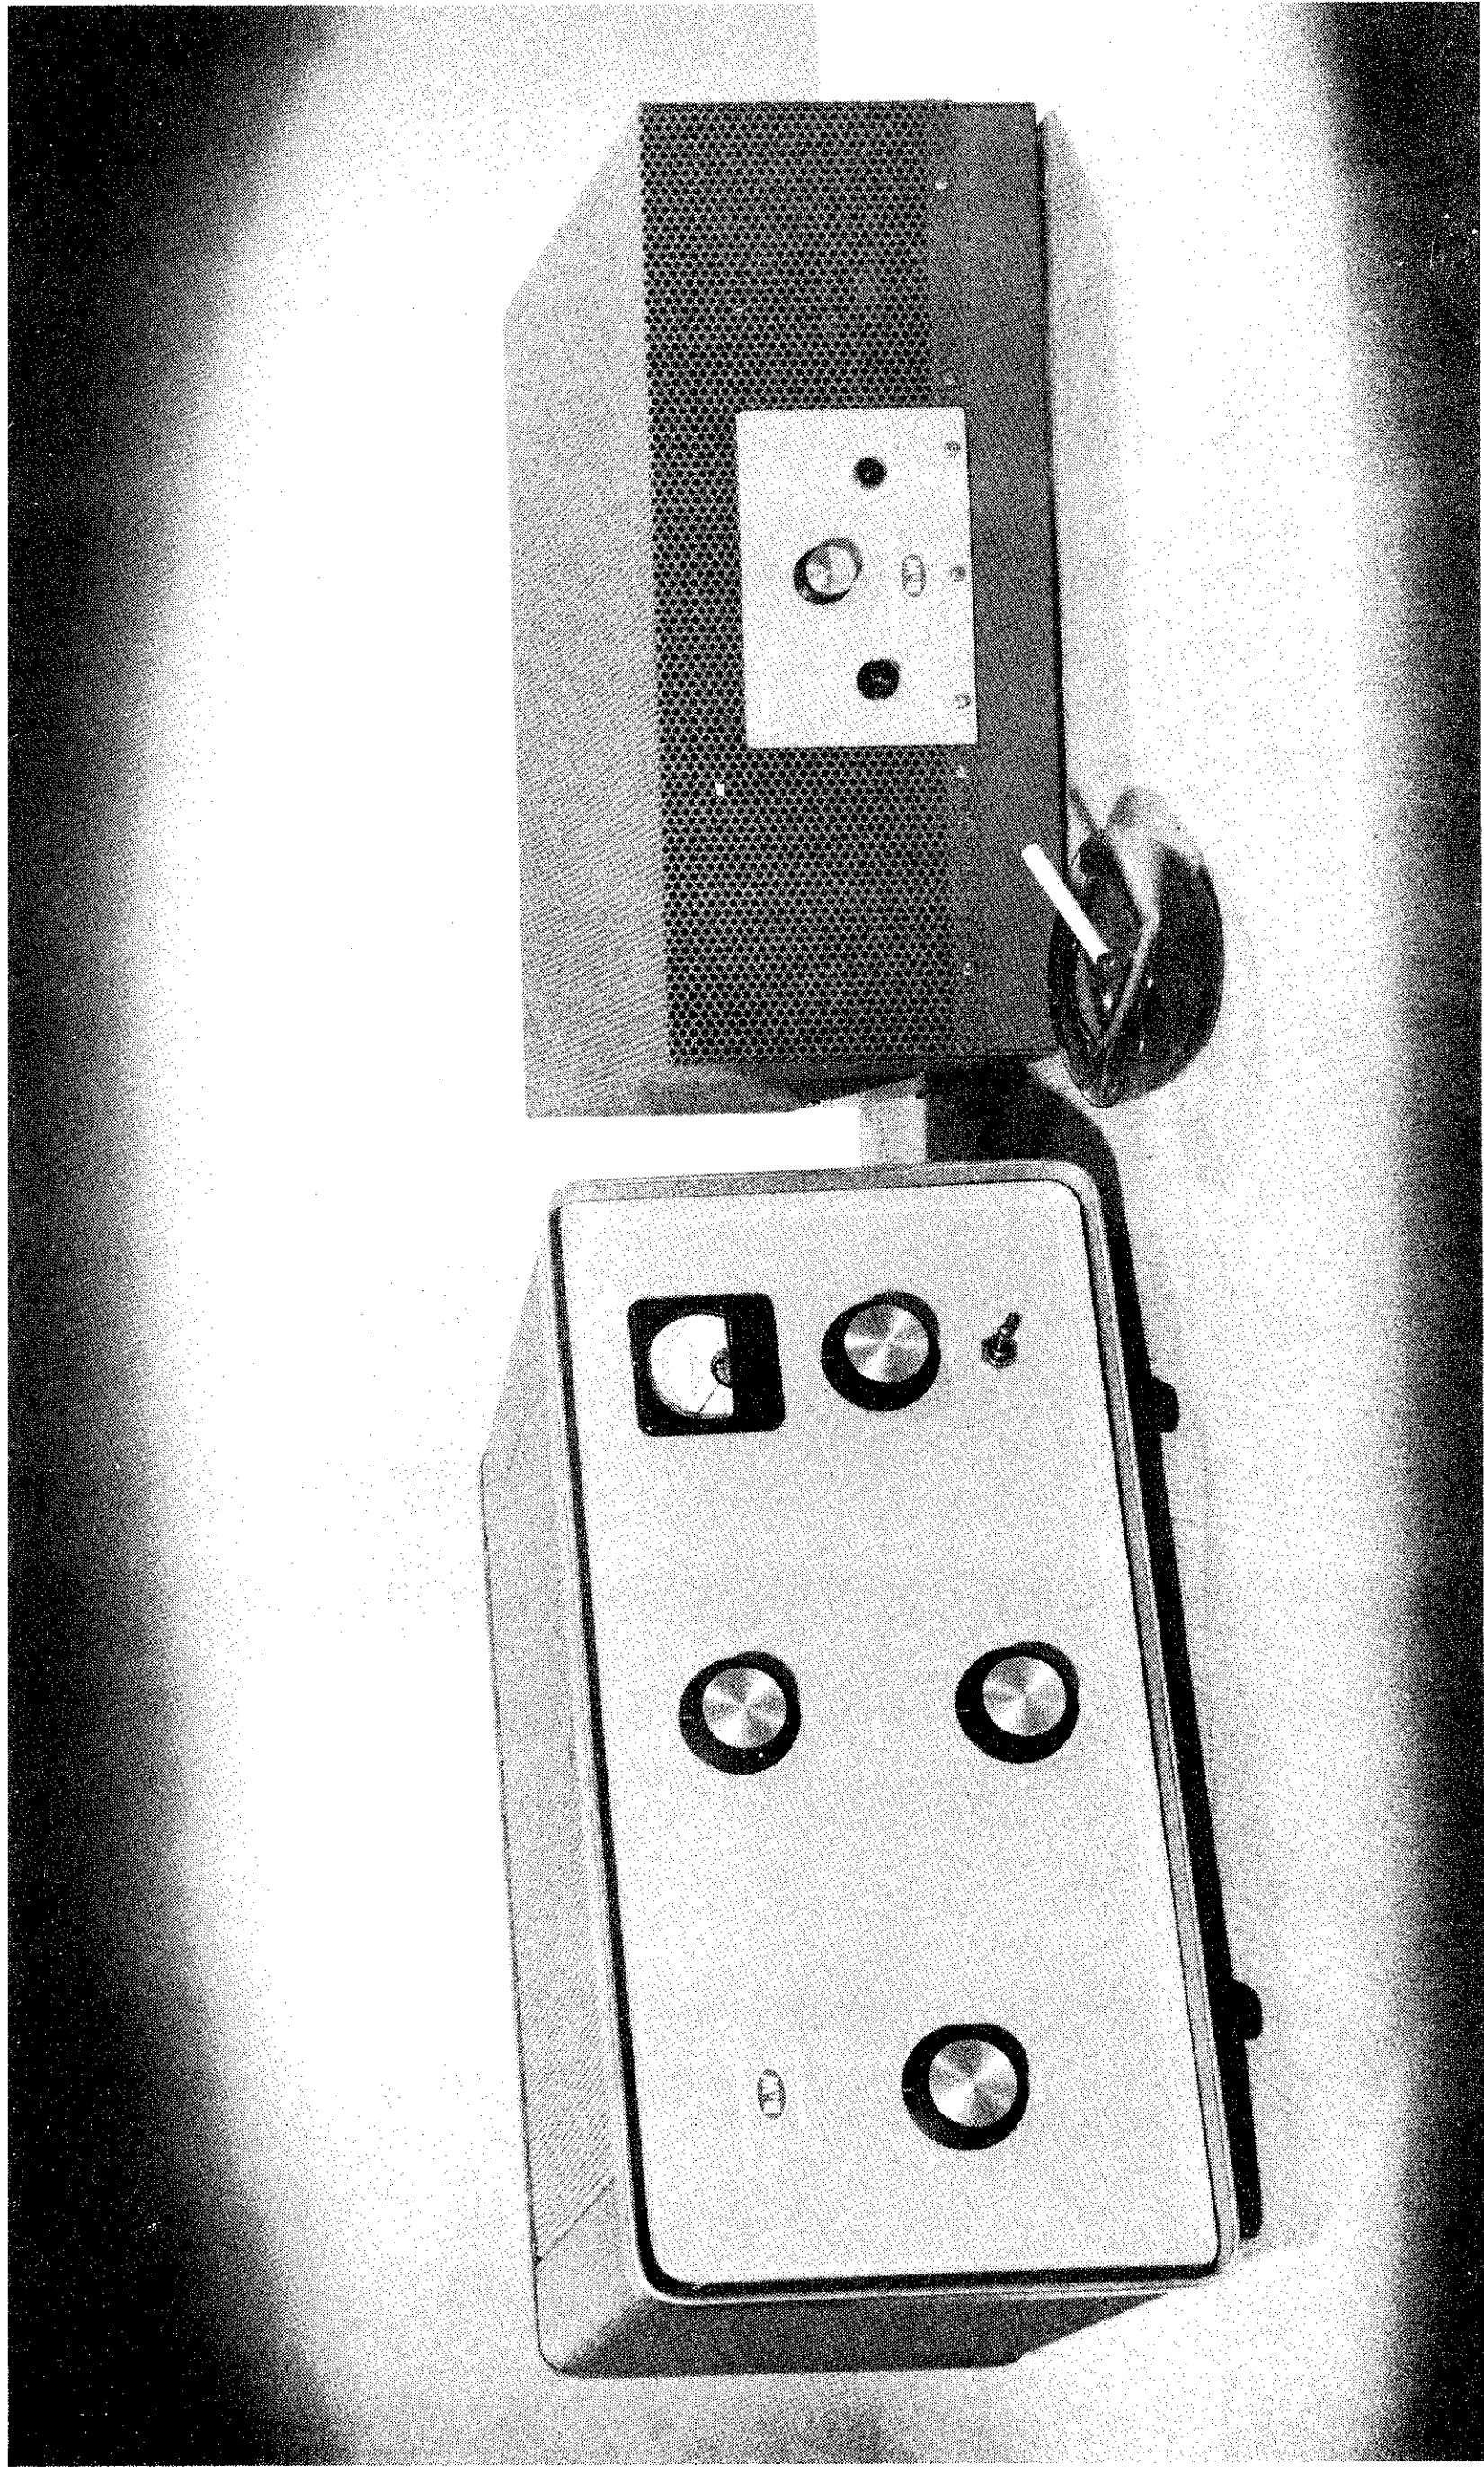

FIGURE 1. MODEL LPA-I LINEAR POWER AMPLIFIER AND MODEL LPS-I POWER SUPPLY
a. The B&W Model LPA-1 Linear Power Amplifier (fig. 1) is designed for desk-top operation. Full legal input power is easily obtained for CW and SSB emission. Linear AM operation is limited to within the dissipation ratings of the power amplifier tubes.
b. The Model LPA-1 Linear Power Amplifier has a self-contained filament and bias supply for the power amplifier tubes. A companion power supply, B&W Model LPS-1 Power Supply, (fig. 1.) was designed to furnish the high voltage, power controls and protection circuits for the most efficient operation of the amplifier, although any well designed and constructed power supply that will furnish the required high voltage and current, may be used.